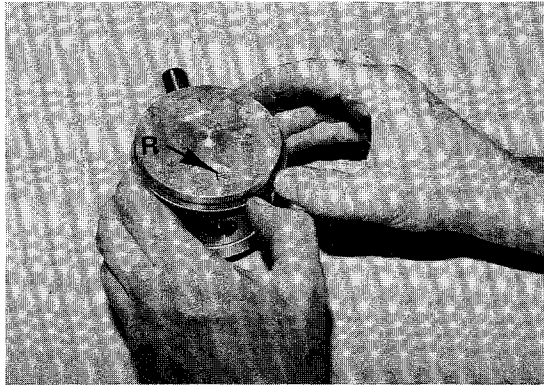

Figure 6-19
1. Replace rings (85) (Figure 6-3) by spreading the ends between your thumbs and slipping them over the top of the piston (Figure 6-19).
1. Apply a coating of oil in the piston pin rod hole and on piston pin (86).
2. Make sure mark (R) on top face of piston is on same side as the five raised letters on connecting rod (Figure 6-19).
3. Install piston pin (86) through piston (84) and rod (82) and install new piston pin retaining rings (83).
1. Make sure mark (R) on top face of piston is facing towards FLYWHEEL side of cylinder (Figure 6-19).